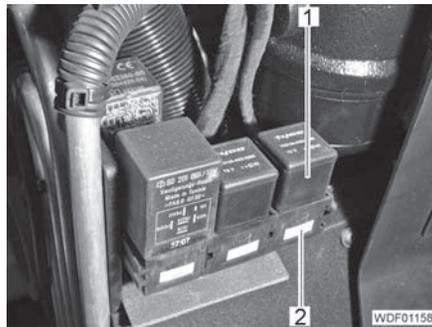

Fig. 444 Relay
- Pull out the relay (Fig. 444,1).
- Insert new relay into the plug-in base (Fig. 444,2).